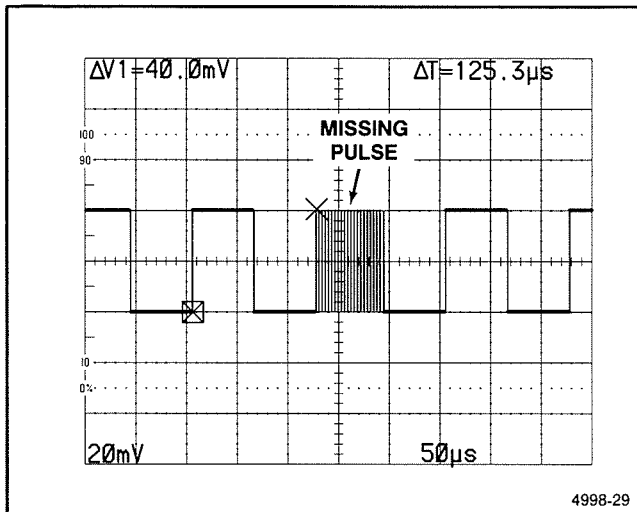

Figure 6-16. Missing pulse, ACCPEAK STORE mode.
**MISSING PULSE.** ACCPEAK mode is useful for finding an intermittent pulse in a pulse train. The pulse may either be missing or present erratically. In either case, the change in amplitude levels is displayed as a completely filled in pulse (see Figure 6-16).